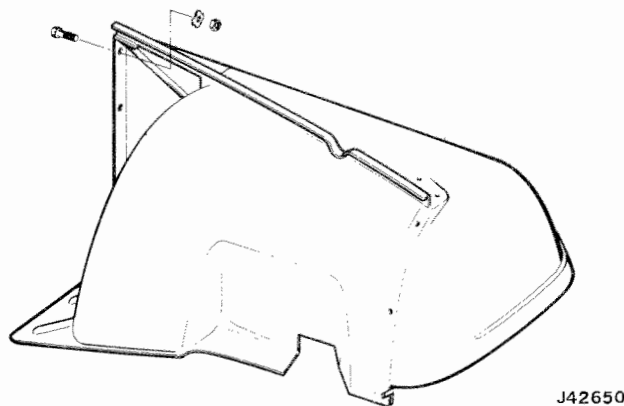

Fig. 14-12 Front Fender - CJ Models
(1) Remove or disconnect all items attached to the apron of fender.
(2) Remove hood retaining latch and side marker light from fender.
(3) Remove bolts, washers and nuts securing fender and brace to firewall (fig. 14-12).